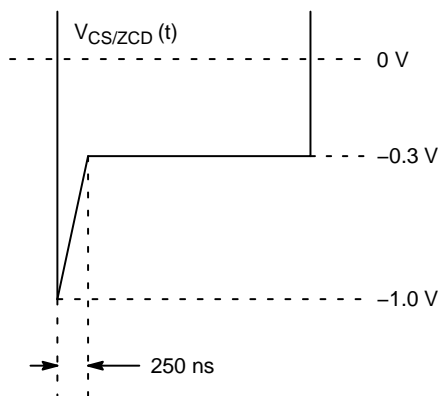

Figure 2.
4. The recommended maximum voltage not to exceed remains -0.3 V but Figure 2 short negative spike on the CS/ZCD pin is typically acceptable. However, it implies the full characterization of the circuit embedding the NCP1612, including at maximum temperature conditions, during which no erratic operation is observed. If otherwise noted, we recommend to clamp the negative voltage on the CS/ZCD pin to avoid carrier injection within the die.